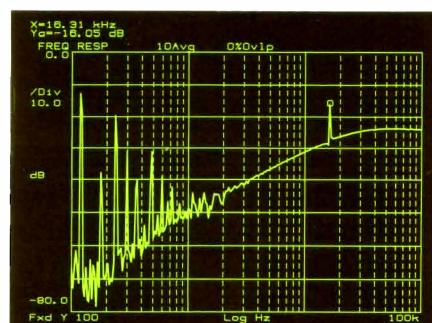

Figure 3-2
9. Start Press the yellow **START** key. The 100 Hz-to-100 kHz frequency response will be displayed automatically. The result shown in Figure 3-2 is from the same crystal resonator used in the Linear Resolution example.